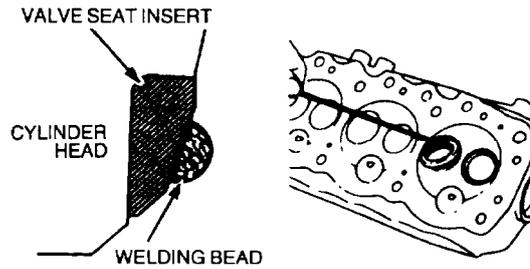

Figure 6 Removing the Valve Seat
- q. If valve seats are to be removed, run a bead of weld on the angled face of the valve seat (Figure 6). As the weld cools, it will cause the valve seat to shrink allowing it to be easily removed.